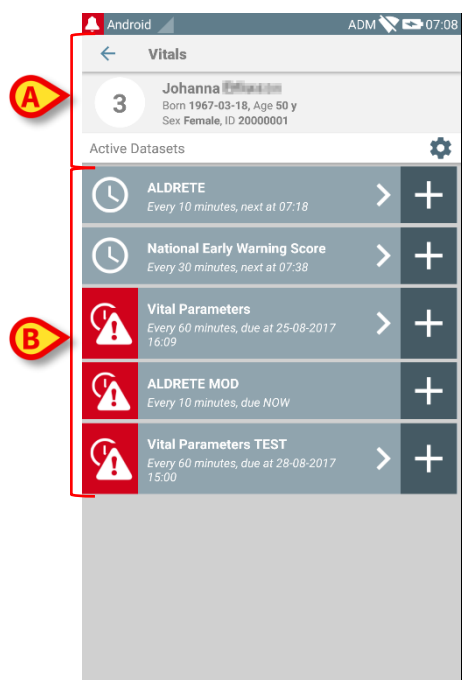

Fig 46
- Touch one tile to access the list of datasets enabled for the corresponding patient (Fig 46).
The datasets list screen is formed of two areas: a heading area (Fig 46 **A**) and the list of datasets (Fig 46 **B**).